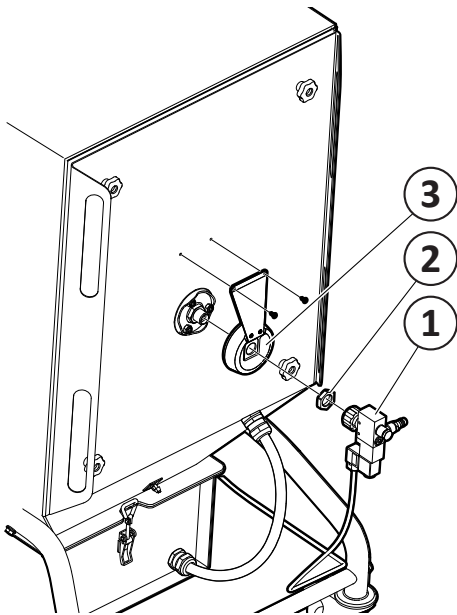
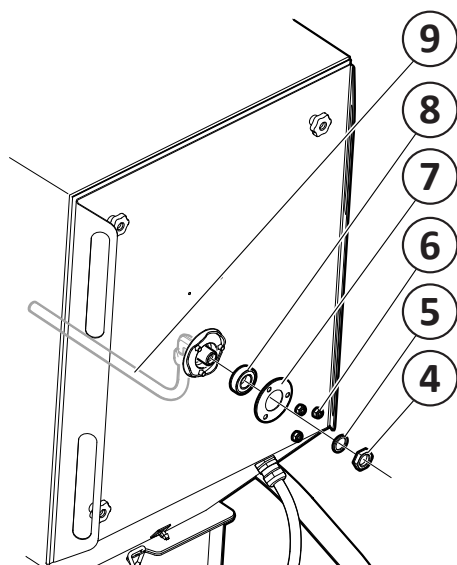

Fig. 18
Fig. 19
1. Unscrew the compressed air valve (1, **Fig. 18**).
2. Unscrew the nut (2).
3. Unscrew the contact guard (3).
4. Unscrew the nut (4, **Fig. 19**) for nozzle (9) and remove the washer (5).
12. Refit the contact guard (3, **Fig. 18**), nut (2) and compressed air valve (1).